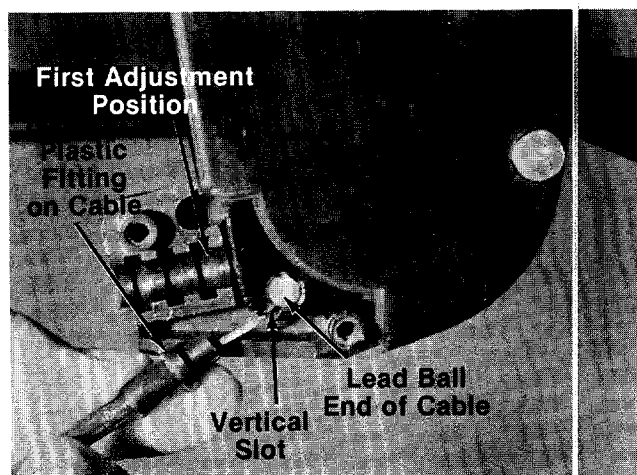

FIGURE 8.
- a. Place the lead ball end of the cable into the fitting provided in the end of the clutch control lever. Slip the braided wire into the vertical slot as shown in figure 8.
- c. Place the plastic fitting on the control cable into the first adjustment position in the clutch control housing. See figure 8.
When starting the unit for the first time, face the mower against a solid object such as a wall, fence, etc. Start the unit, and if it shows any signs of motion with the drive clutch control disengaged, shut the engine off immediately. Check the position of the drive clutch control cable. The plastic fitting must be assembled in the first adjustment position inside the housing, all the way to the right, as shown in figure 8.